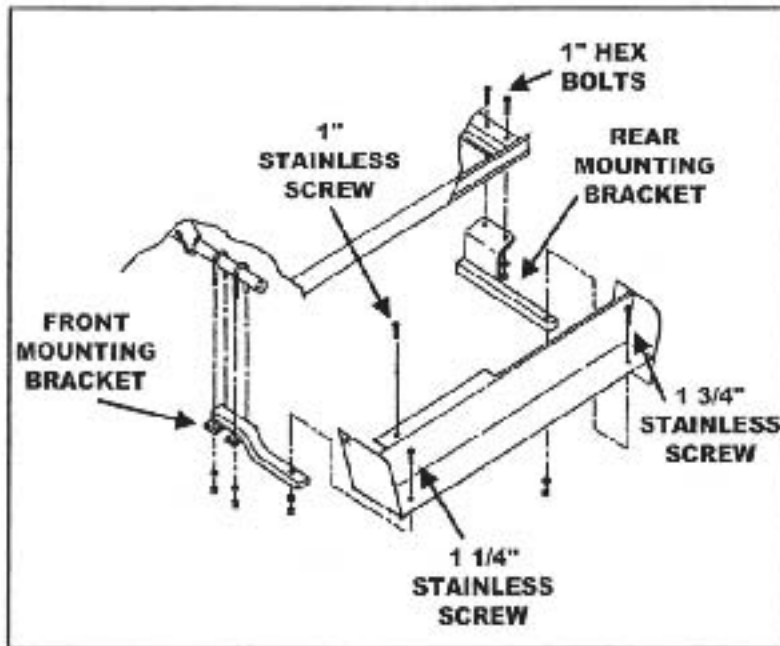

Figure 1
1. Remove rubber side trim from cart. Attach each of the Front mounting brackets with U-bolts provided using 4 ea 1/4" flat washer and nylok nuts for each bracket approximately 3 1/8" of the mounting bracket should extend from the cart. Attach each of the rear mounting brackets using 2 ea 1/4" x 1" hex bolts, 1/4" flat washers and Nylok nuts for each side. Note: Some carts have 1, 2, or no holes in the frame depending on the year, some drilling may be required. When mounted correctly, the square tubing will be flush with the bottom of the cart and extending out approximately 3 1/8" from the cart (Figure 1).
2. Lay rocker panel/running boards on mounting brackets and clamp together. Drill 2 ea 1/4" holes from the underside of each of the rocker panel/running boards. Attach using 1 ea 1/4" x 1 1/4" Phillips stainless screw, 1/4" flat washer and, Nylok nut for each front bracket, and a 1/4" x 1 3/4" Phillips stainless screw, 1/4" flat washer, and Nylok nut for each rear bracket. (Figure 1)
3. Drill a 1/4" hole through the plate portion of each running board and into the floorboard. Secure using 1 ea 1/4" x 1" stainless screw, 1/4" flat washer and Nylok nut for each side. (Figure 1)